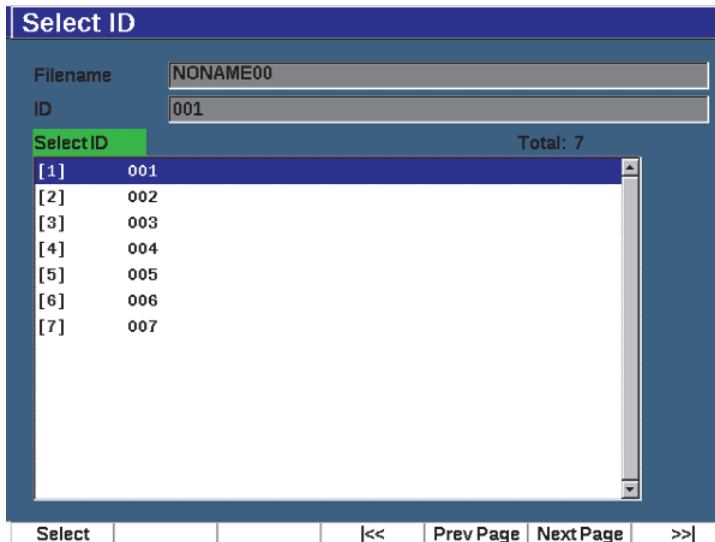

Figure 10-11 Select ID page
3. Press **Select ID** (P2 key) to display the **Select ID** page (see Figure 10-11 on page 214).